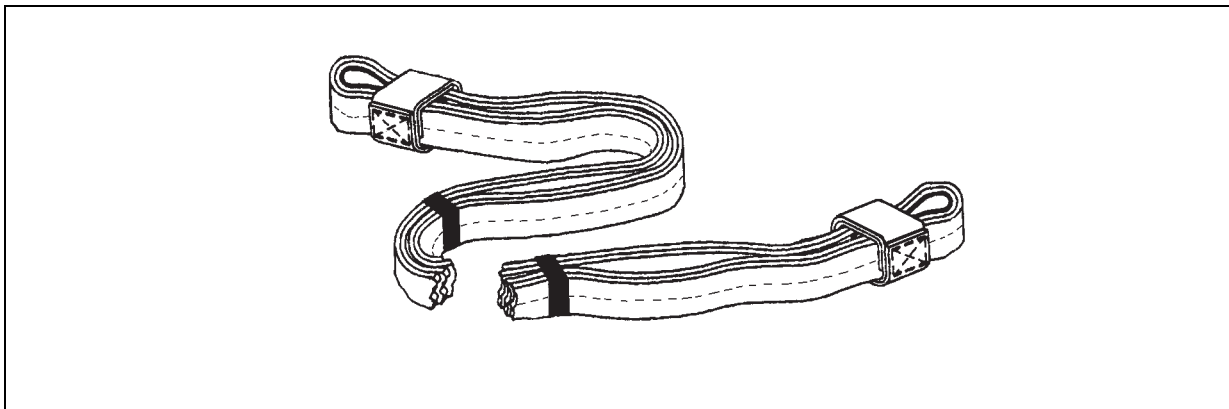

Figure 6-35. Two-Loop , Type XXVI Multi-loop Line
- **Type XXVI Nylon Multi-Loop Lines.** The Type XXVI nylon multi-loop lines are available in 3-, 9-, 11-, 12-, 16-, and 20-foot lengths (figure 6-35). Each multi-loop line is constructed of two or four concentric loops. See Appendix B for NSN information. The two-loop Type XXVI nylon multi-loop line's maximum rated capacity is 5,600 pounds when rigging a sling load. The maximum capacities for a four-loop multi-loop line is 11,200 pounds. A colored thread stitched lengthwise along the middle of the strap identifies the sling as a Type XXVI nylon multi-loop line.